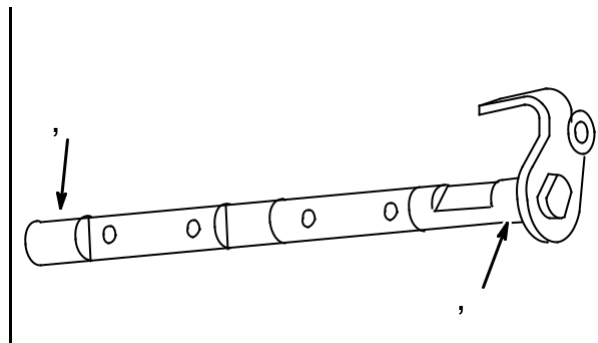

Fig. 116
Inspect throttle shaft and choke shaft for wear on the shaft bore surfaces (2), **Fig. 116**.